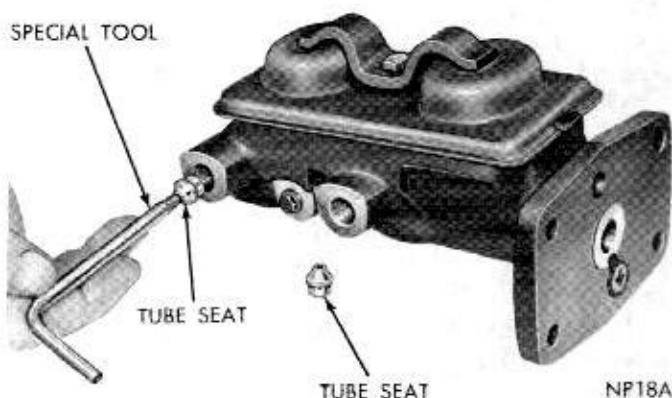

Fig. 2—Removing Tube Seats
(6) Using Tool T-109-178 (or an easy out) remove tube seats by threading tool firmly into seat, tap tool and seat out of cylinder body. (Fig. 2).